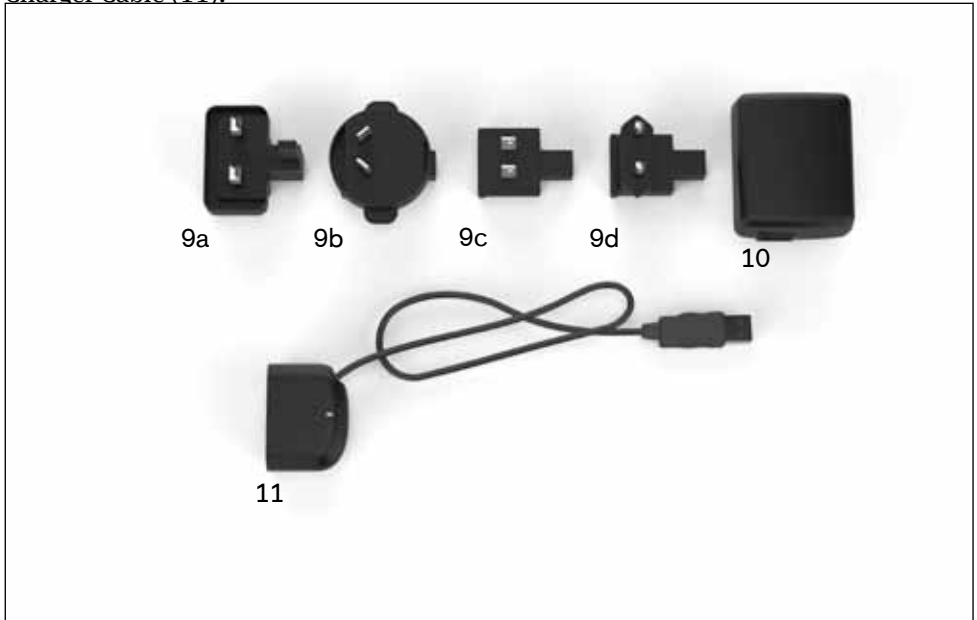

Figure 4: ActiGait® accessories. 9: Travel kit for Charger, 10: Charger, 11: Charger Cable
Furthermore, you will be supplied with the accessories shown in Figure 4, i.e. the Travel Kit for the Charger consisting of 4 different plugs (9), the Charger (10) and the Charger Cable (11).
When you receive your ActiGait®, the package will contain the items shown in Figure 3 and Figure 4. This chapter explains everything about the ActiGait® and its accessories.